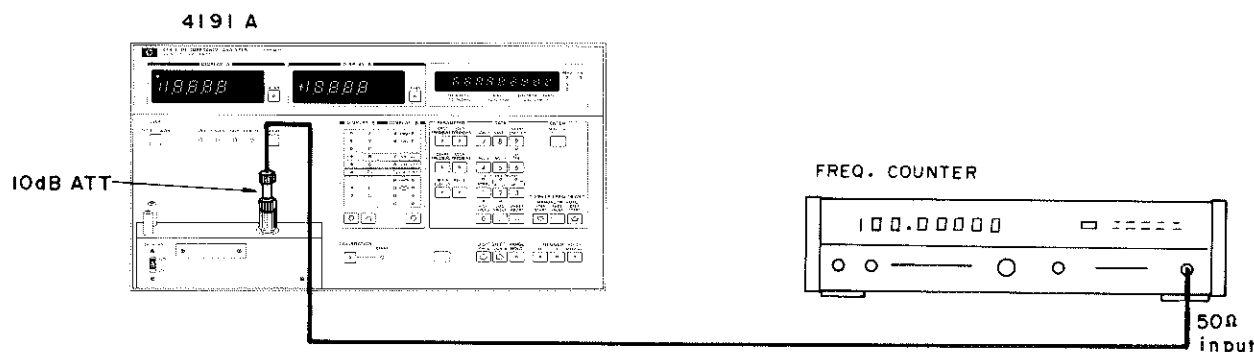

Figure 5-2. Test Signal Frequency Adjustment Setup.
3. Connect the 10dB attenuator and connection cable between the frequency counter input and the 4191A UN-KNOWN connector as shown in Figure 5-2.